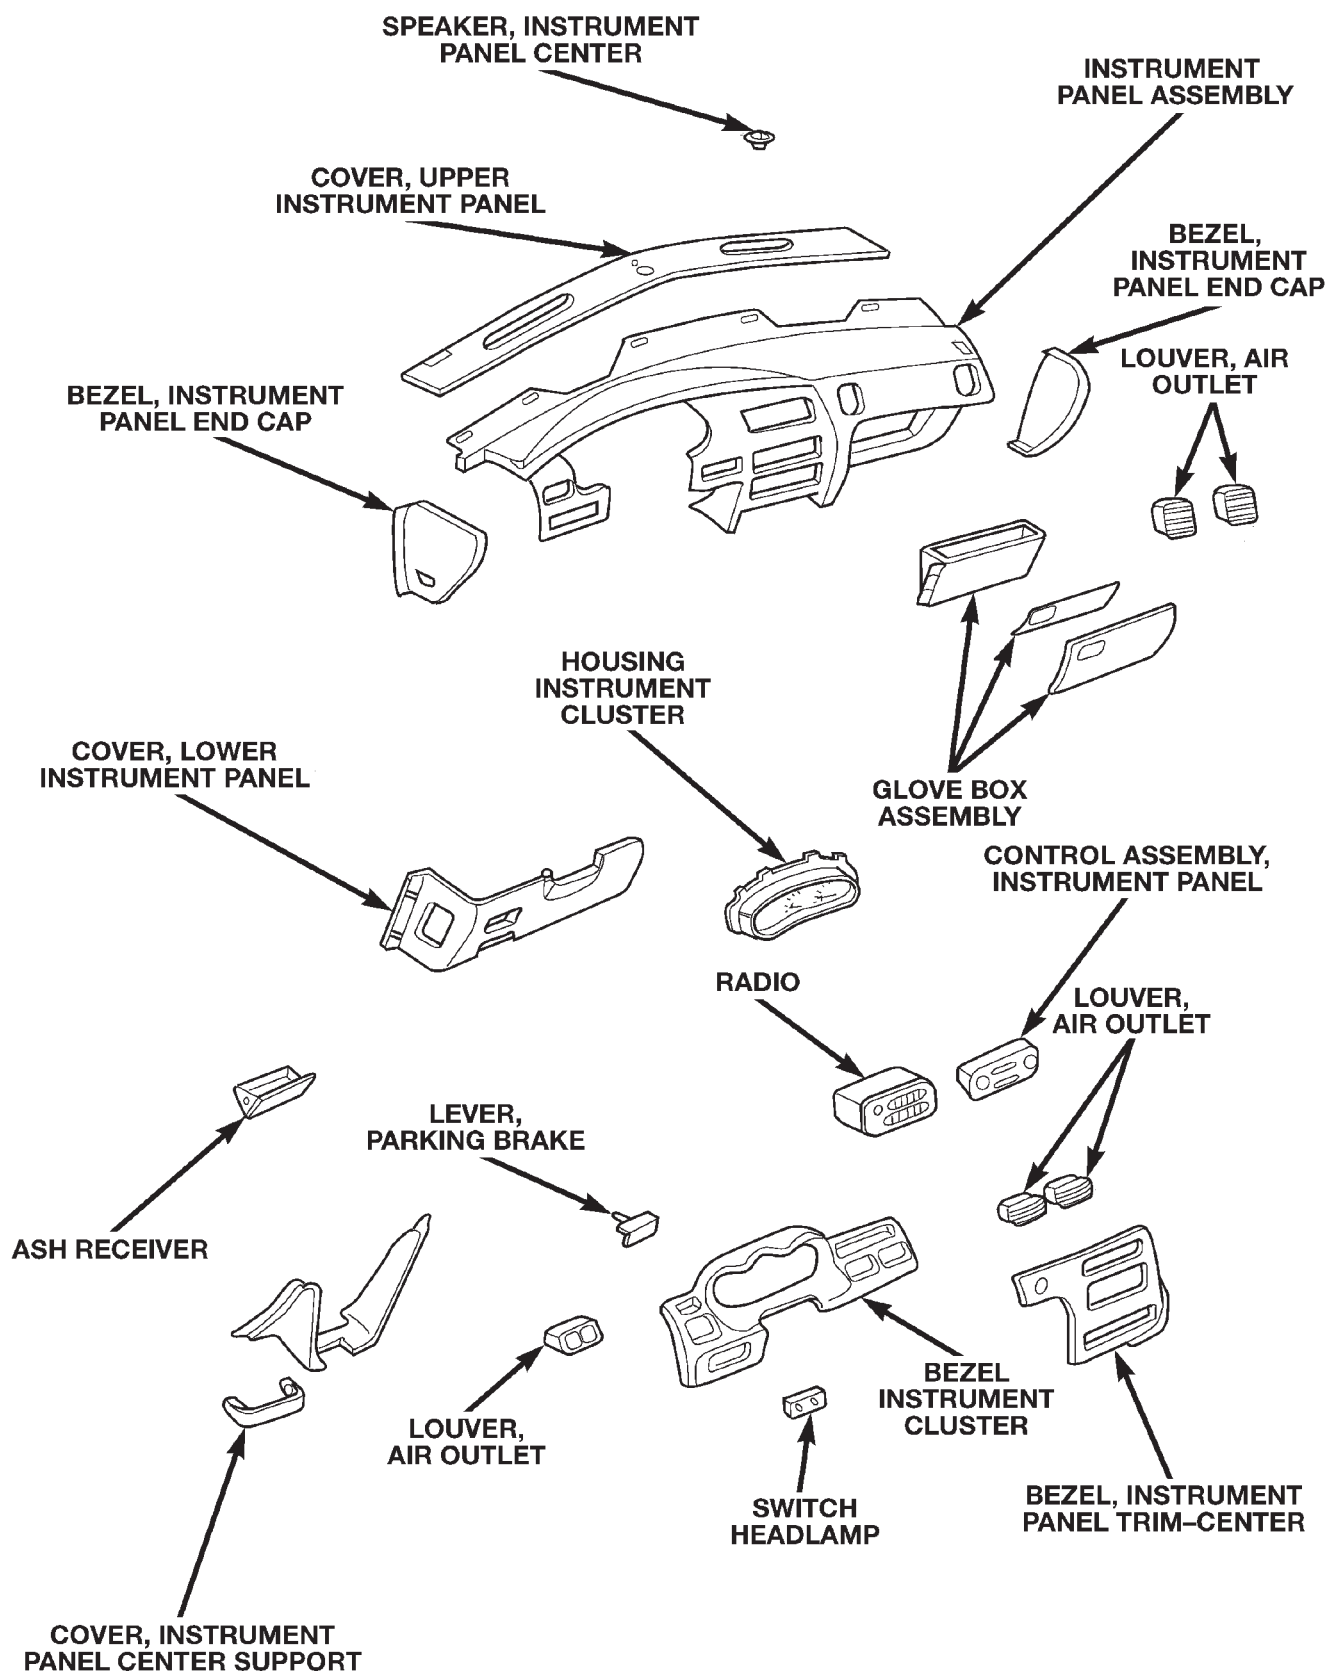

Fig. 6 Instrument Panel Components – Intrepid
- (1) Open hood and disconnect the negative battery cable remote terminal from the remote battery post.
- (2) Remove the instrument top cover, refer to (Fig. 6), (Fig. 7) and (Fig. 8).
- (3) Remove the two sun sensor mounting screws.